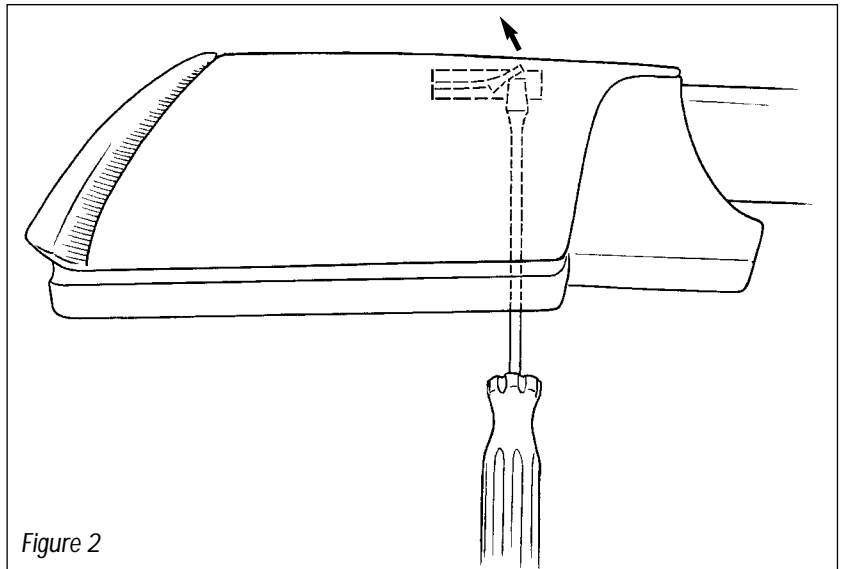

Figure 2
2. Insert your screwdriver through the vertical slot until you feel the tip pressing against a spring loaded clip. (see Figure 2 opposite)